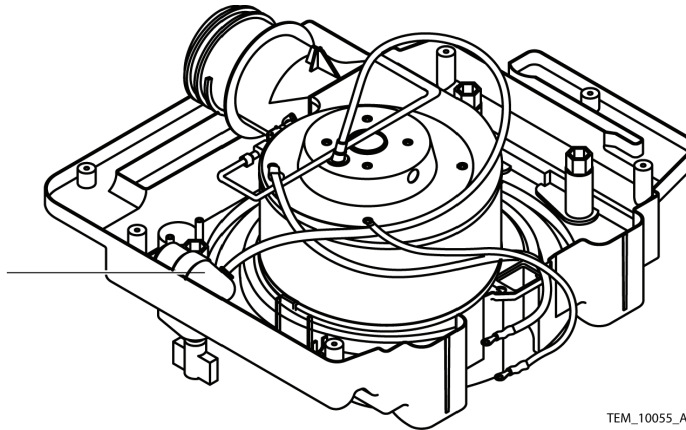

Figure 67. Blower Capacitor
22. Loosen the nut holding the capacitor to the rear cover assembly. See Figure 67.